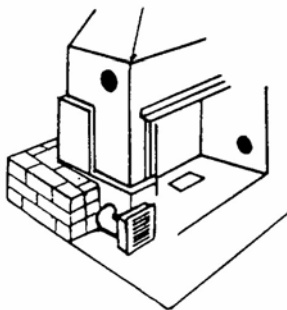

Fig. 4 Starting brick work and locating grilles
**Step 4** Plan the location of the cold air intake grilles. Air must not pass direct from the cold air inlet to the hot air outlet. The air must be circulated through the unit. Air passages should be finished smoothly to speed air flow and prevent heat loss. Sometimes it is desirable to locate grilles beyond the chimney masonry; if such is the case, use metal duct for the inlet and insulated metal duct for the warm air outlet. If Reverso H.F. fan grilles are to be used in the Heat-Circulator, and the power line to the fan is concealed, it may be desirable to locate the conduit and junction box in the masonry. When Reverso H.F. fans are used, two fans - one located in each cold air intake - are needed. Never locate the fans in the warm air outlet. Set the cold air intake grilles in place. Do not remove top grill face until the boxes are installed in the masonry. This assures a neat and level fit and protects the grilles. After dimensions are checked, the location of the grille and thickness of the mortar joints determined, the dry course of brick can be taken up and laid permanent with mortar. (See Figure 4)